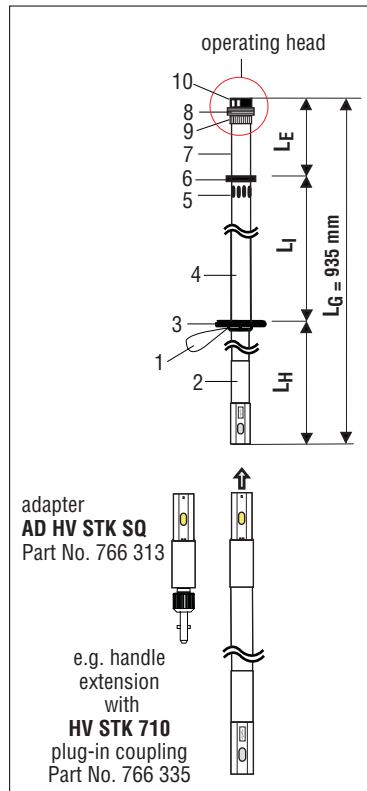

Fig. 1
- 2.1 The structure of the HSA 194 voltage detector is illustrated in Fig. 1.
- 5.5 Only the inserting element of the voltage detector may be inserted into the protected zone of the insulator (see Fig. 1).